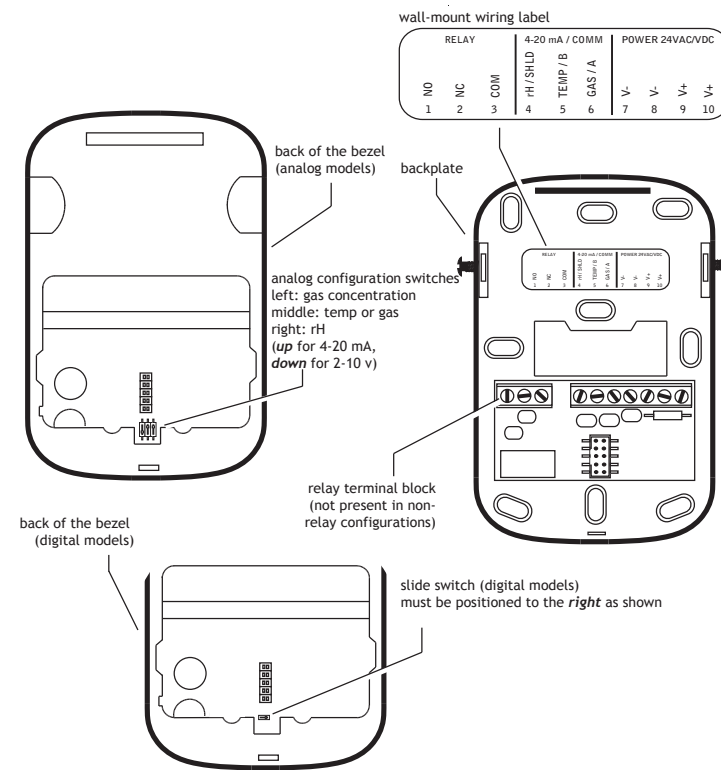

Figure 2: wiring the wall-mounted monitor
- Connect each of the wires to the corresponding terminals on the backplate, as shown in Figure 2.